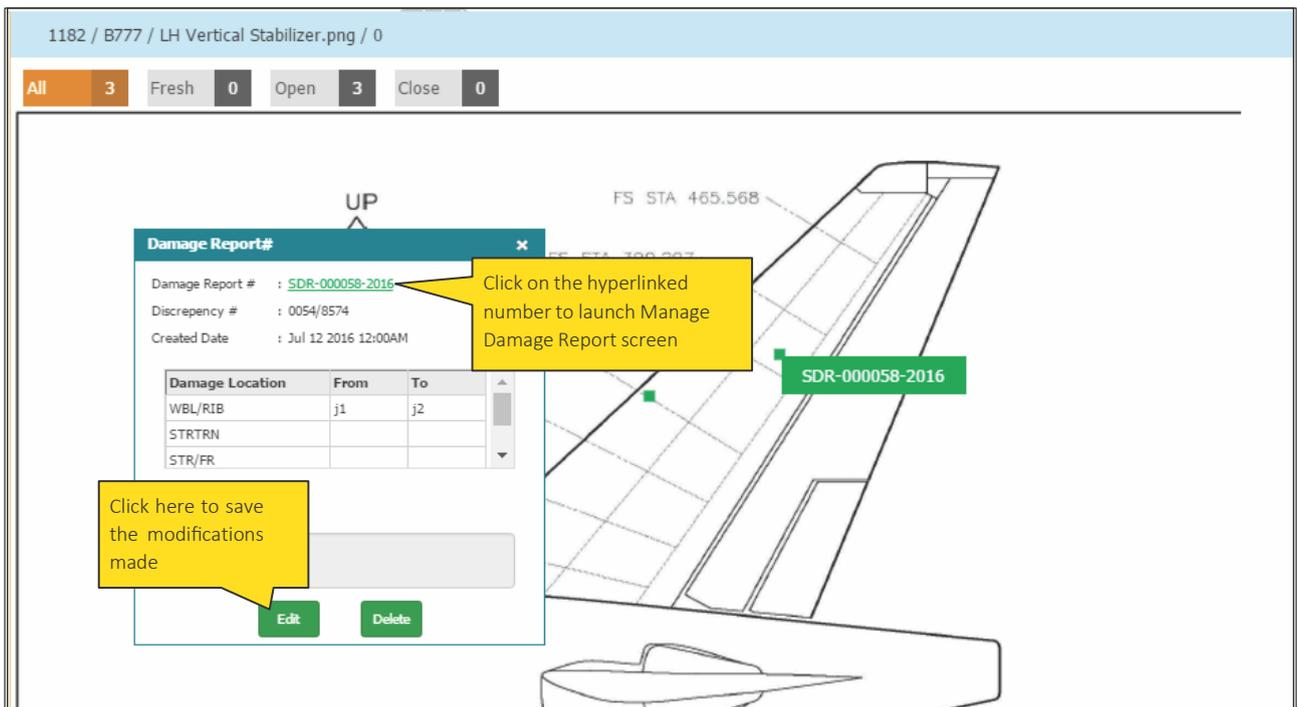

Figure 3.10 Modify damage report details
3. Click on the **damage report number**. The Damage Report # popup appears. See Figure 3.10.